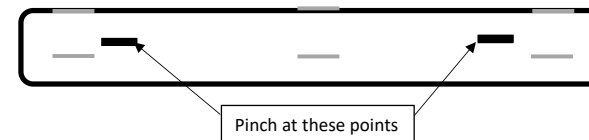

Fig. 3
- Remove the gear tray from the baseplate by pinching the clips at two locations (see Fig. 3)